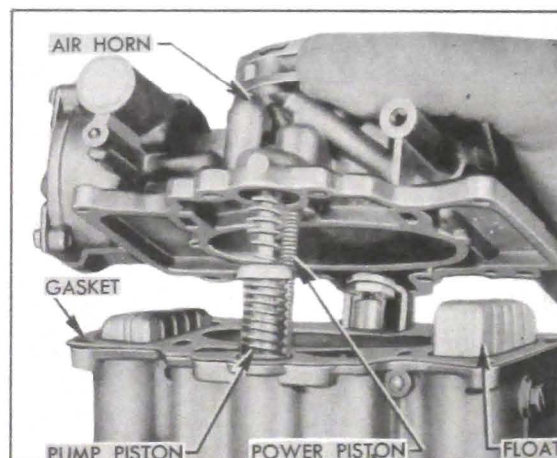

Figure 3-64—Removing Air Horn and Attached Parts
3. Remove screws and carefully lift air horn straight up from main body to avoid damaging the float, pump piston, and vacuum power piston which are attached to air horn. Remove pump piston. See figure 3-64.